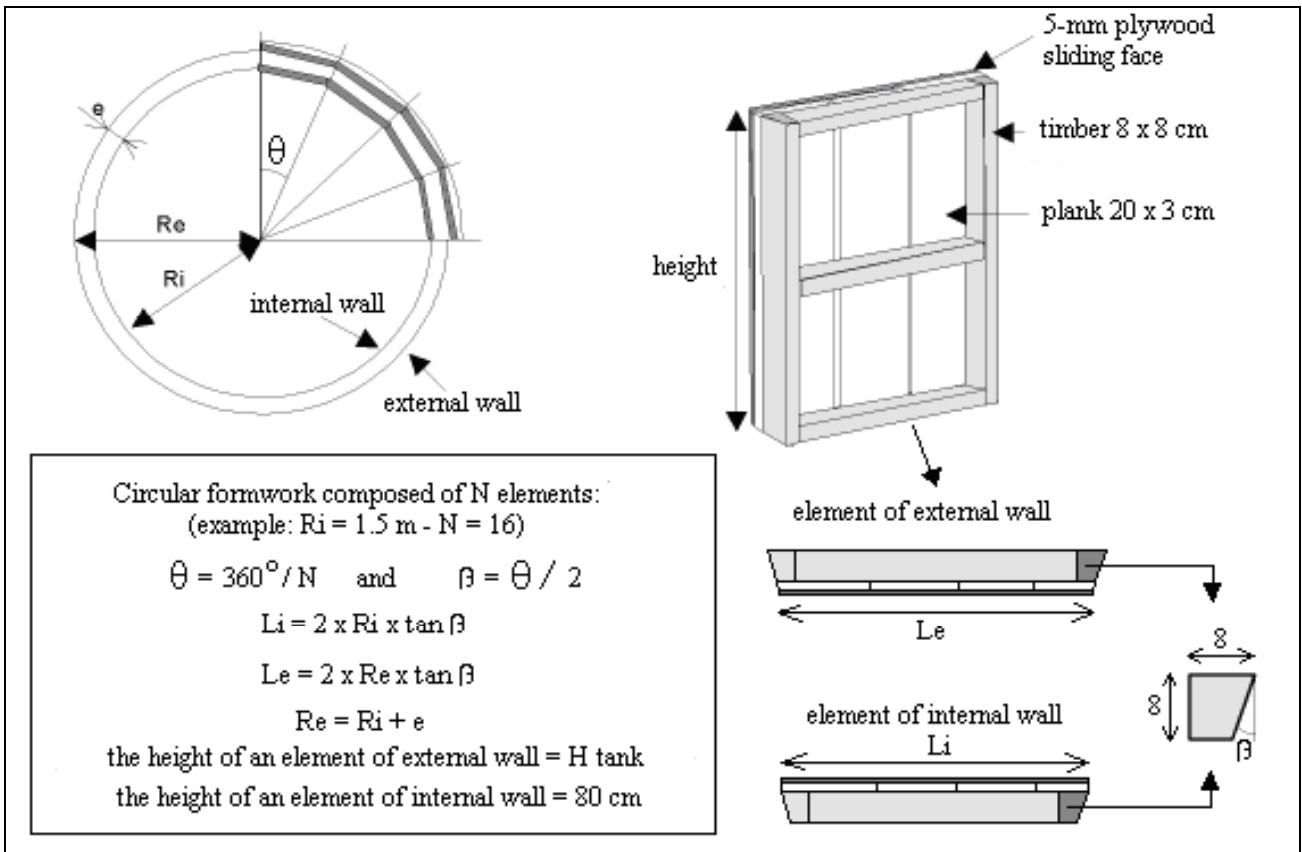
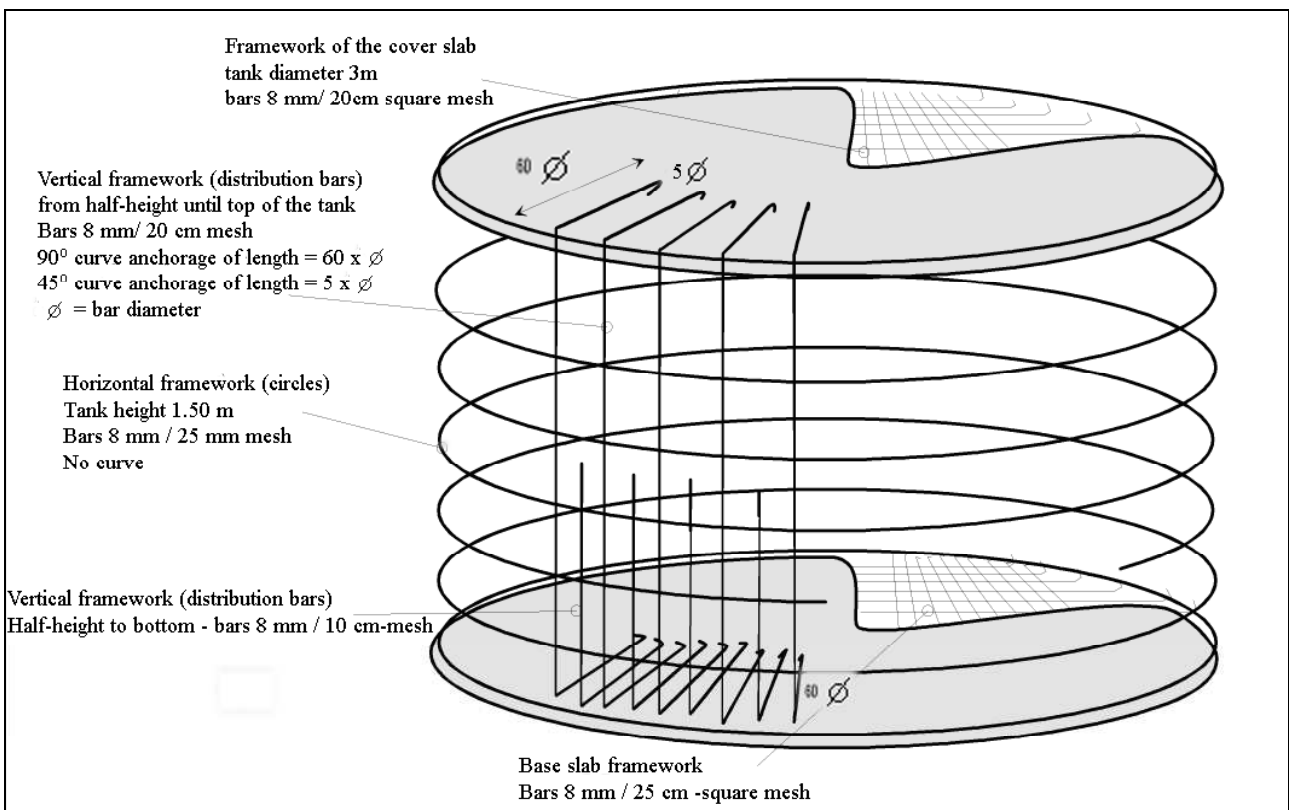

Fig 6: Formwork for cylindrical tank
Fig7: reinforcement of a cylindrical tank of 3m of diameter
- Construction of apron and tank walls. Wooden planks must be used for the formwork. For the circular tanks we will use a pre-manufactured wooden formwork like illustrated in figure 6; an example of reinforcement for cylindrical tank is given in figure 7,